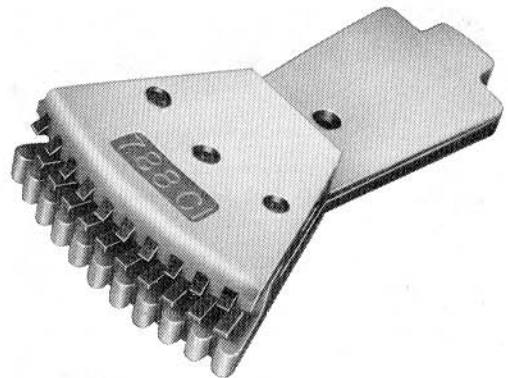

Fig. 11—788C1 Tool, 5-Pair Cutoff Tool
2.16 The 788C1 cutoff tool head (Fig. 11) mounts in the 788A1 tool handle and is used to cut five cable pairs at one time on the index strip after proper insertion.